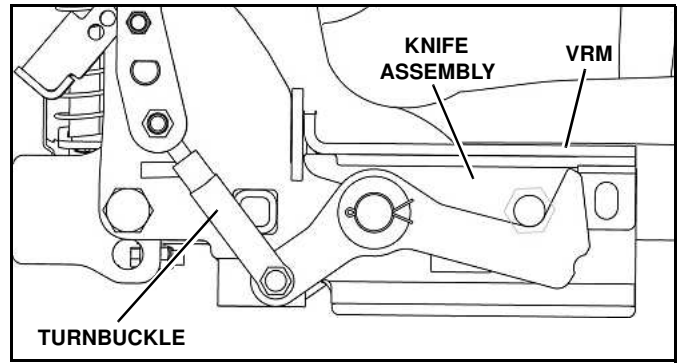

Figure 1-44
5. Once mounted, raise and lock the engagement handle. (See Figure 1-44).
NOTE: Turnbuckles are set to an approximate length from factory. Further adjustment may be needed after installation. Over extending the turnbuckle could cause the handle to become difficult to rotate completely. Periodically the turnbuckle will need to be adjusted due to wear and tear of the VRM. (See Figure 1-44 and Figure 1-45).